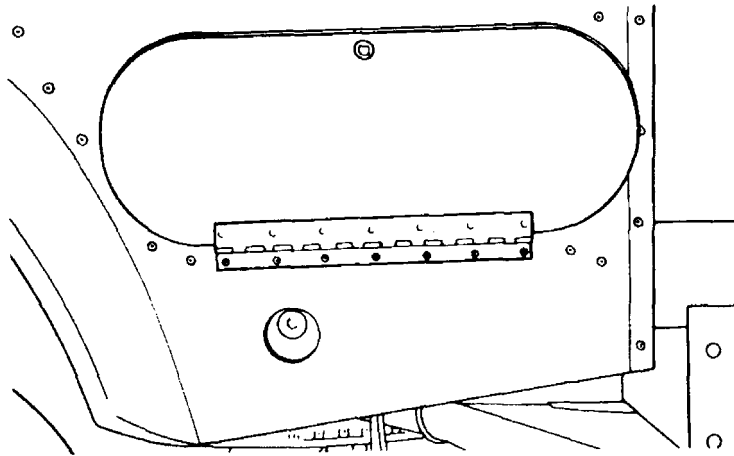

Figure 5 Tool Box and Wheel Arch Trim – Left Side
16. A toolbox is incorporated on each side of the rear body, located to the rear of the wheel arch (Figure 5). Each toolbox is equipped with a hinged lockable lid, which provides storage for the hydraulic jack and the vehicle's toolkit. A wheel arch trim is positioned over each wheel arch and secured to the side panels by plastic rivets.